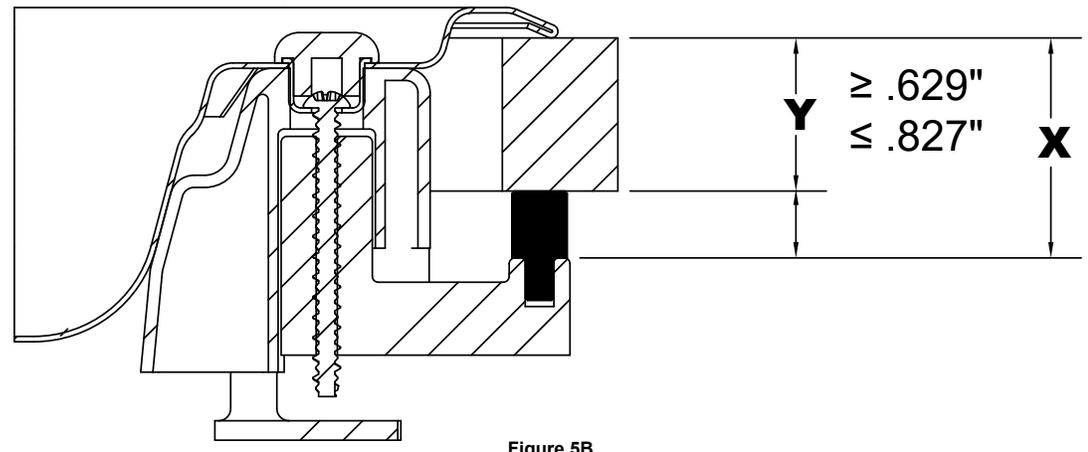

Figure 5B
- If the countertop thickness range is between 0.629" - 0.827", the plastic spacer piece provided SHOULD be used in conjunction with the clamping mechanism (Refer to Figure 5B).